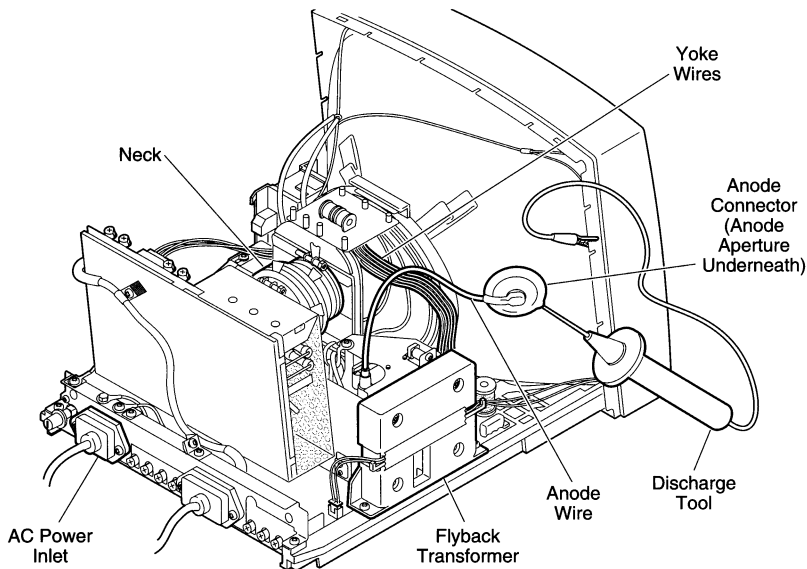

Figure 1 CRT Discharge and Danger Points
7. **FIGURE 1. Always discharge the anode before touching anything inside the monitor.** High voltage (up to 12,000 volts DC) can be present on the anode and other components—even when power is off.
9. **FIGURE 1. Do not pick up or handle a CRT by the neck.** To prevent an implosion, take every precaution against breaking the tube. Be especially careful with the neck, where the tube is thinnest.
10. **FIGURE 1. When adjusting a live CRT, never touch any of the components shown in the figure.**
2. FIGURE 1. Attach the alligator clip on the CRT discharge tool to the metal part of the bezel.
3. FIGURE 1. Put one hand in your pocket or behind your back. With your other hand, insert the tip of the CRT discharge tool under the anode cap until it touches the anode ring.